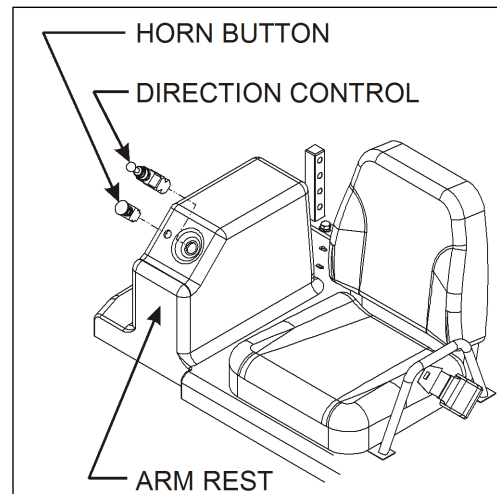

Figure 3-67: Horn Button/Direction Switch
- The horn push button and directional control switch (forward-neutral-reverse) are located on the driver's arm rest panel. Each assembly is available as a complete unit only. **See Figure 3-67.**
- Remove the mushroom cap (setscrew). **See Figure 3-67.**
2. Remove the switch locknut cap. **See Figure 3-67.**